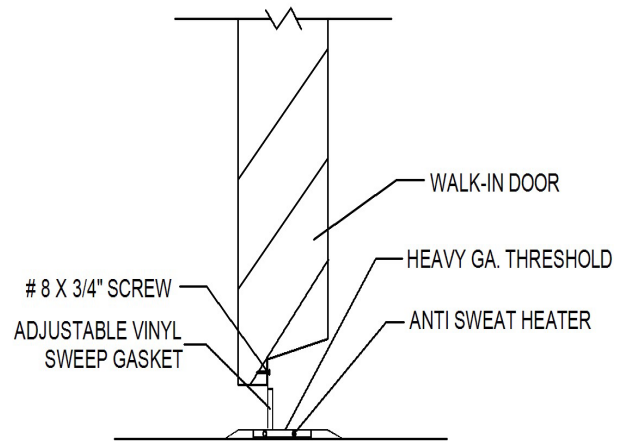

FIGURE 33 - SWEEP GASKET SECTION
1. Loosen the #8 screws holding the retainer found at the bottom of the door in place. Do not completely remove the screws (Refer to Figure 33).